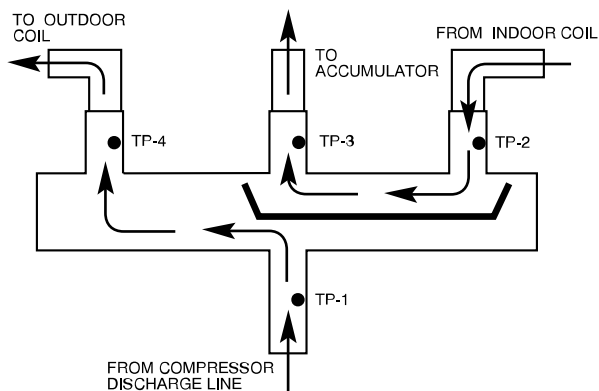
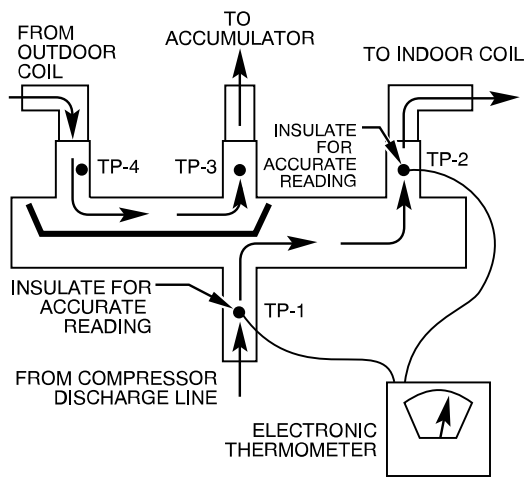

Fig. 14 – Reversing Valve (Cooling Mode or Defrost Mode, Solenoid Energized)
Fig. 15 – Reversing Valve (Heating Mode, Solenoid De-Energized) ^{A10188}
Using a remote measuring device, check inlet and outlet line temperatures. DO NOT touch lines. If reversing valve is operating normally, inlet and outlet temperatures on appropriate lines should be close to each other. Any difference would be due to heat loss or gain across valve body. Temperatures are best checked with a remote reading electronic-type thermometer with multiple probes. Route thermocouple leads to inside of coil area through service valve mounting plate area underneath coil. Fig. 14 and Fig. 15 show test points (TP) on reversing valve for recording temperatures. Insulate points for more accurate reading.